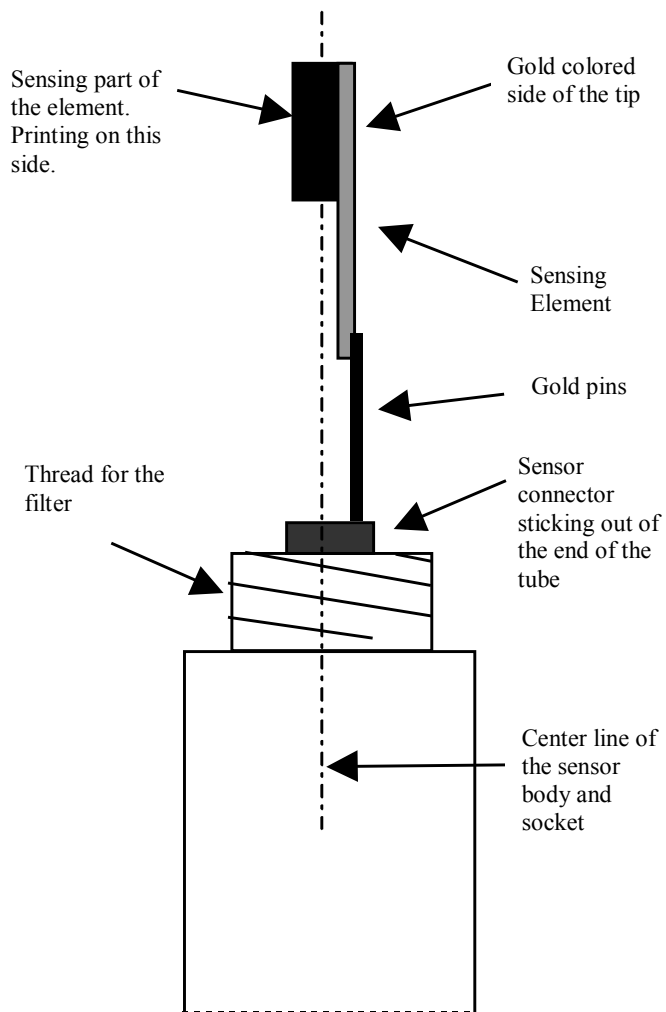
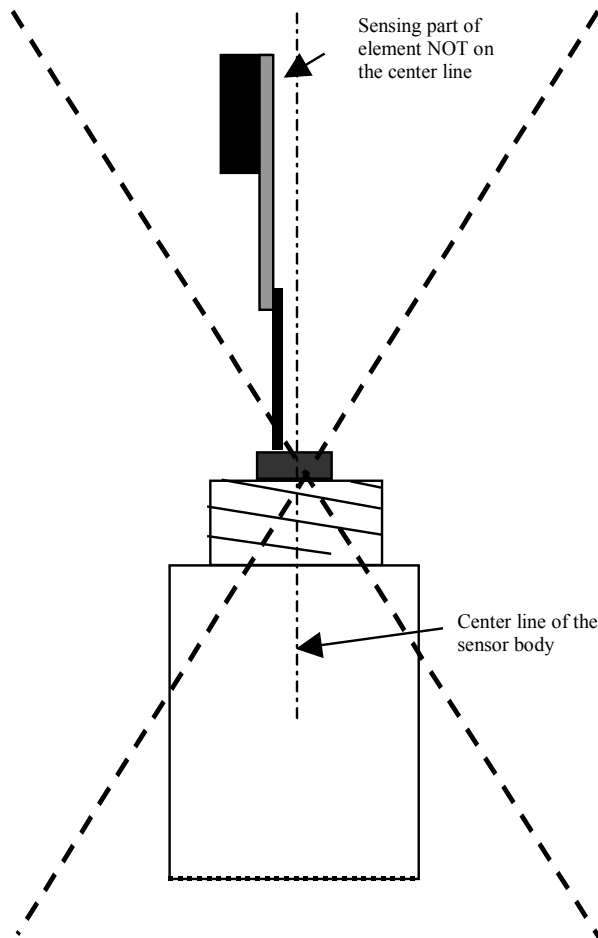

FIGURE 9-1. Correct fit of sensor element (side view)
FIGURE 9-2. Incorrect fit of sensor element (side view)
4. Identify the sensor element. FIGURE 9-1 shows a side-view of the end of the probe and sensor element. Before removing the element, carefully study the probe, note its orientation, and read the following description:
- FIGURE 9-1 shows the correct orientation, while FIGURE 9-2 shows the incorrect orientation.
10. Before replacing the filter element and turning on power to the sensor, double-check that the sensor is inserted in the correct orientation. Refer to FIGURE 9-1.